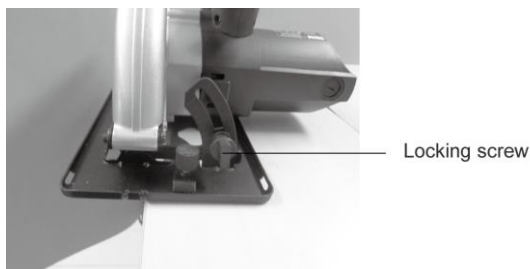

Fig.3
1. Loosen the cutting angle adjustment. (Fig.3)